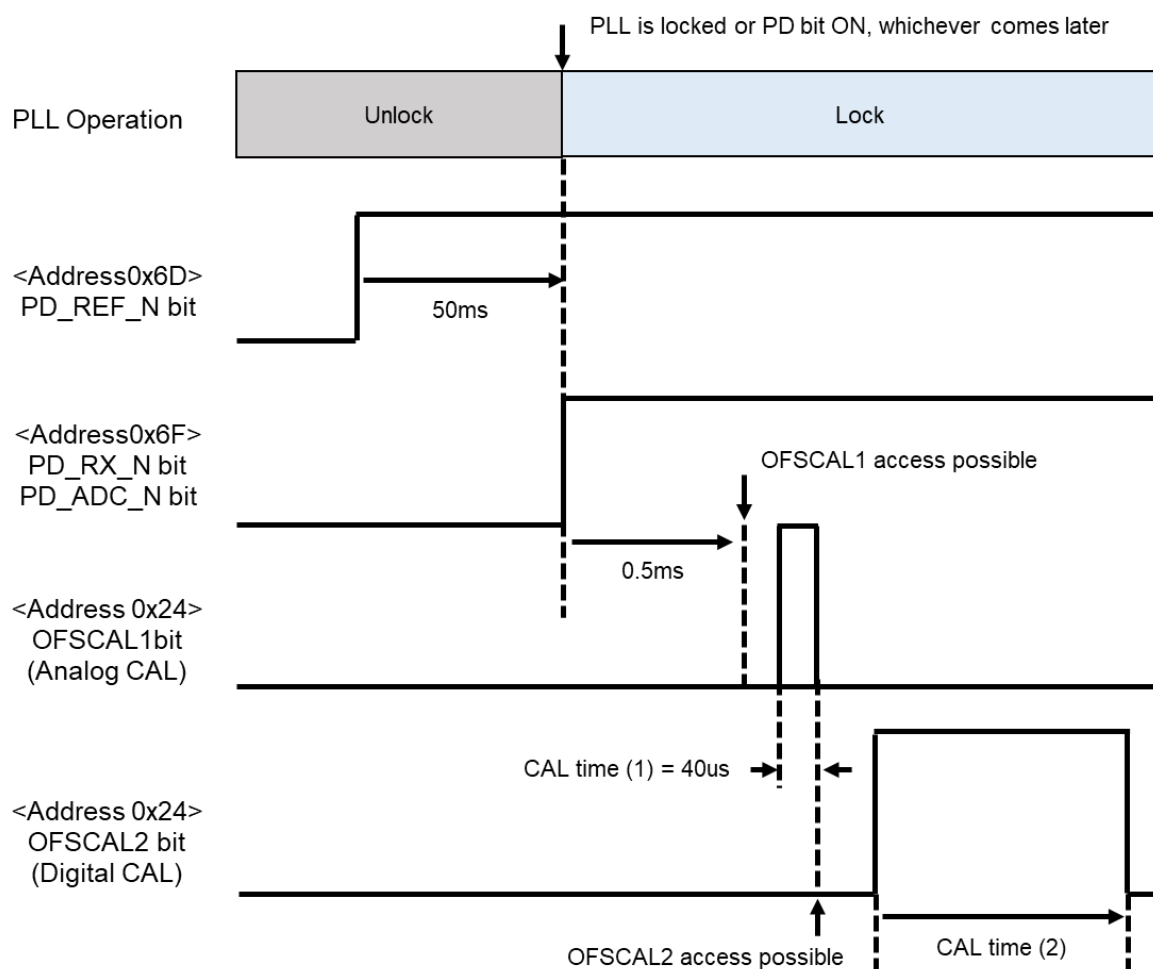

Figure 16 Power-up sequence of the Receiver
The Figure 16 shows the operation sequence of the power-up of the receiver. For more information, including the CAL time (2), refer to 13.8.8 DC Offset.